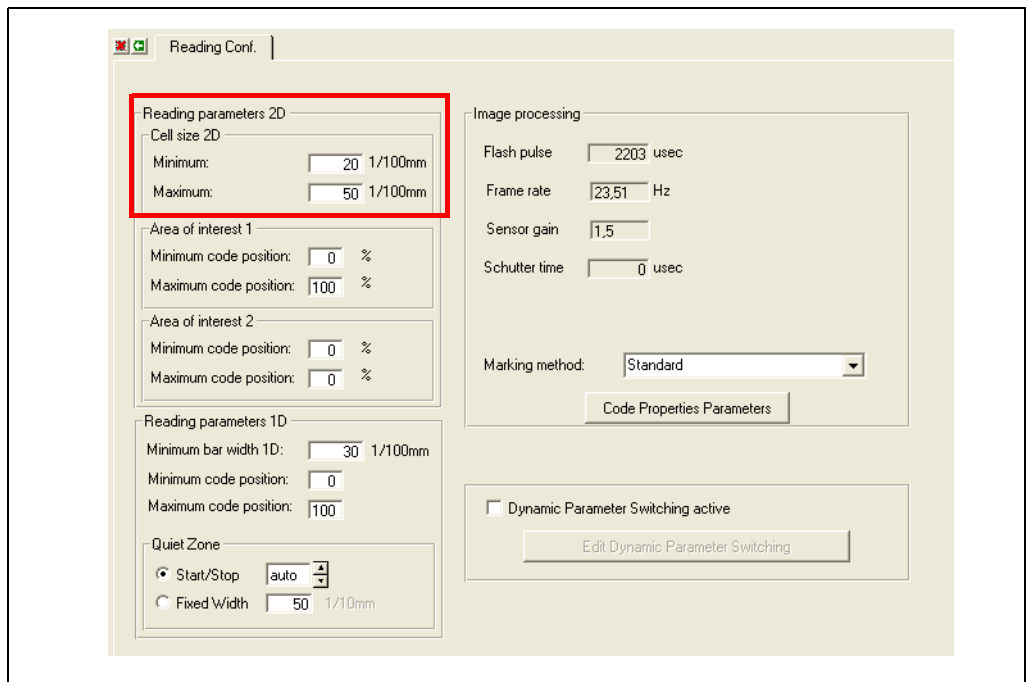

Fig. 10-5: CLV-Setup: "Reading Configuration" tab
1. Select the READING CONFIGURATION tab (*Fig. 10-5, Page 129*).